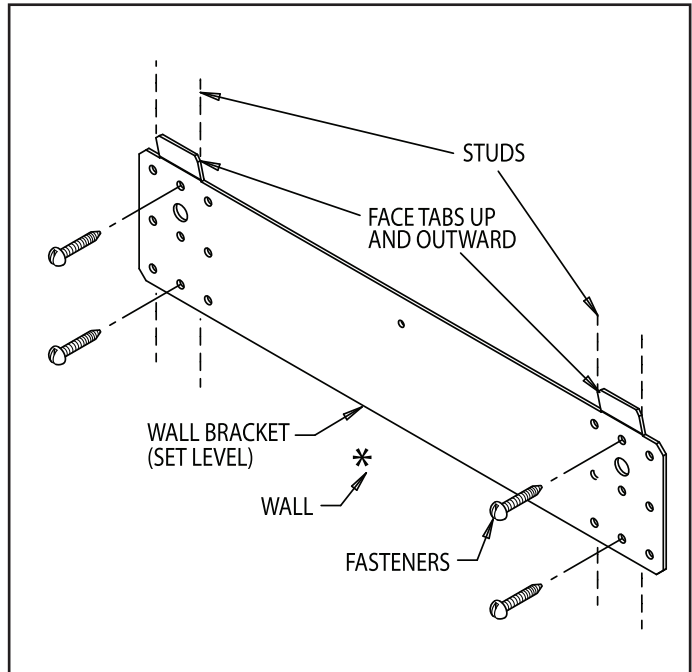

Figure 4a. Wall bracket securement
- Provide a solid, level foundation or vertical wall capable of supporting the weight of the boiler filled with water, and extending at least 2" past the jacket on all sides. See dimensions of boilers, page 2. See also figure 4a & 4b for mounting the boiler on the wall.
Be sure that there are studs available in the proper locations, for securing the boiler wall bracket and back panel. (See Figures 4a and 4b).
A. INSTALL THE WALL BRACKET. SEE FIGURE 4a.